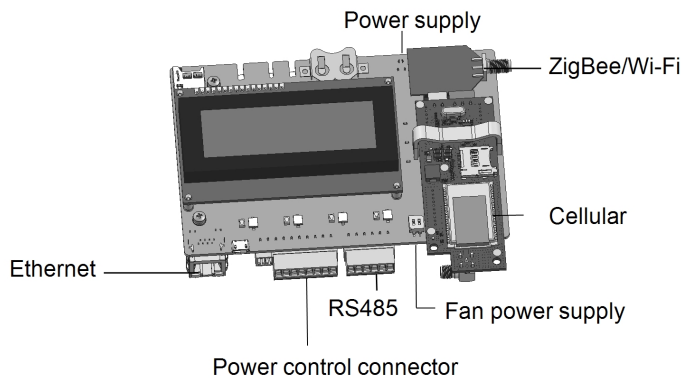

Figure 3: Connectors on communication board (before replacement)
1. Carefully disconnect the following connectors (see *Figure 3*) from the communication board: